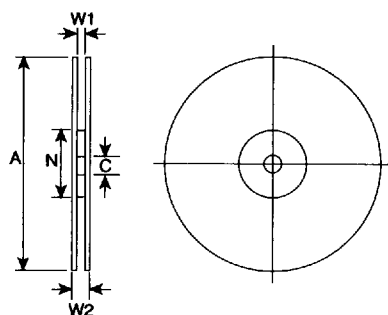

Fig.4 Reel Dimensions
- See Figures 4 and 5.
6.1 Tape will be wound on anti-static plastic reels (See Figure 4)